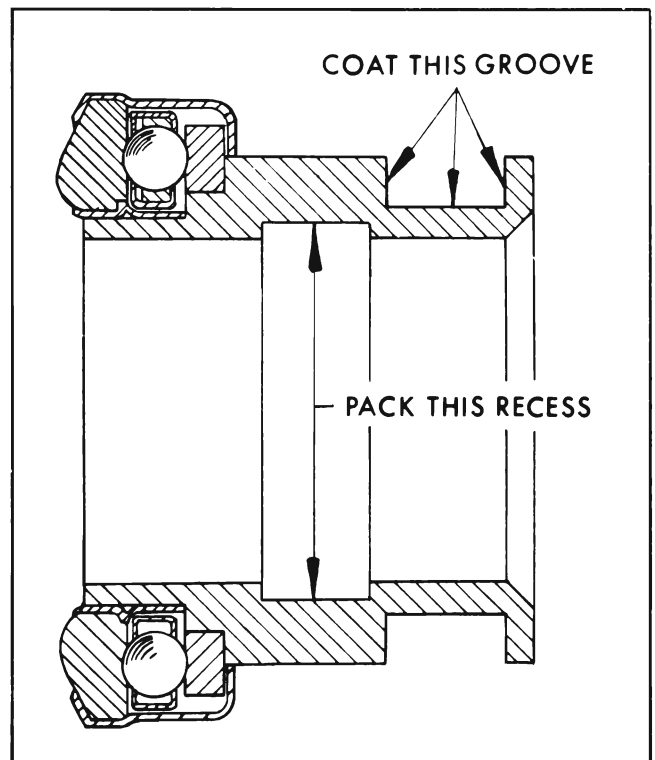

Figure 4-5—Lubricate Bearing
The throw-out bearing assembly is mounted over a retainer which retains the transmission main drive gear bearing. The throw-out bearing is filled with lifetime lubricant in production and no further lubrication is required; however, there is a groove in the inner surface which must be filled. See fig. 4-5. Fill groove with wheel bearing lubricant or a heavy grease.
3. Fill groove in throw-out bearing with wheel bearing lubricant (See fig. 4-5). Make sure transmission front bearing retainer sleeve is clean and apply a light coat of wheel bearing lubricant. Slide throw-out bearing over transmission retainer several times. Remove throw-out bearing and wipe off all excess lubricant pushed up by hub of bearing.